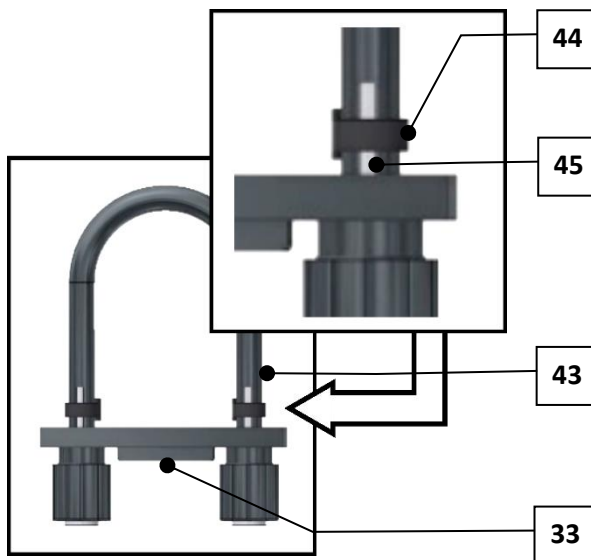

Fig. 24: Hose kit, marking
- The markings on the hose ends must be visible in the front and centre (see Fig. 24)!